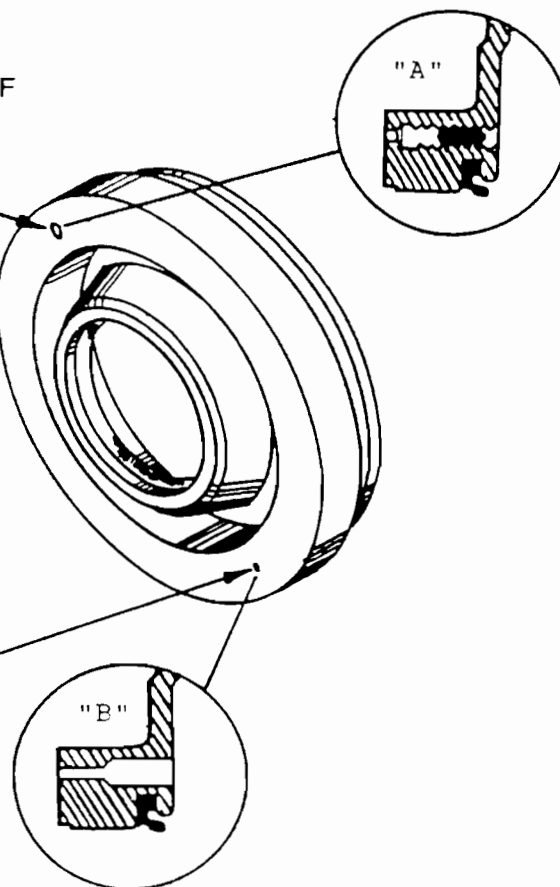

Figure 32
- CORRECTION:** Plug the original hole from the back side of piston with an allen head set screw, flush or below. Retain the set screw with Loc-tite (See Figure 32, Inset "A").
- 180 degrees from original orifice hole you will find a hole started but not drilled through. Drill through here with a 1/16" drill bit, from the front side of piston. Turn the piston over and from the back side of piston, drill about half way through with a 1/8" drill bit. (See Figure 32, Inset "B").